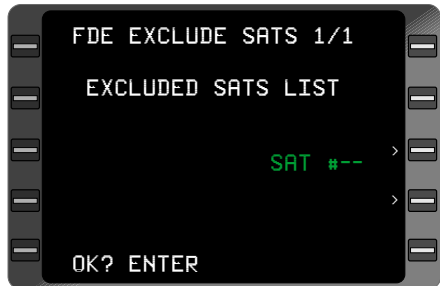

Figure 3-208
15. **ENTER** Key - DEPRESS to display the **FDE EXCLUDE SATS 1/1** Page. See Figure 3-208